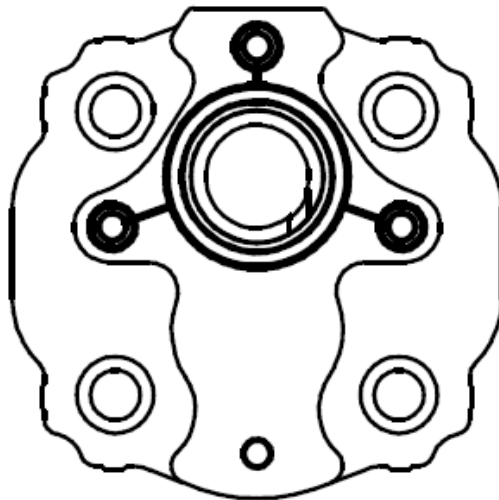

Fig. 7C.89. LOCTITE Applying Procedure
18. Insert retainer spacer (12) into mounting flange (18) using insertion tool (9104-M-329-1) maintaining D dimension; $D = 6.5$ [mm] as shown in Fig. 7C.88.
19. Apply a continuous bead ($1 \div 1.5$ [mm] dia.) of LOCTITE #573 sealant (or commercial equivalent) as shown in Fig. 7C.89, to mating surface of front cover (16), approx. 10 [mm] from retainer spacer (12).
20. Attach mounting flange (18) to front cover (16) and loosely fit with cap screws (19). Torque screws in order shown in Fig. 7C.86 in two stages. Torque the four screws in crosswise order to 50% of full torque value first, i.e. $44 \pm 5\%$ [Nm]. Then tighten the screws to full torque of $88 \pm 5\%$ [Nm] in the same order.
21. Insert retainer spacer (33) into front pump assy housing (2) rear side using insertion tool (9104-M-329-1) maintaining D dimension; $D = 6.5$ [mm] as shown in Fig. 7C.88.
22. Fit splined coupling (32) into rear drive gear (38) opening.
23. Position interface O-ring (34) into groove of front rear cover (35), ensuring that it is seating fully down in groove before front pump assy (1) can be fitted.
24. Fit front pump assy (1) to rear pump assy (22) and loosely fit with cap screws (36). Torque the screws in order shown in Fig. 7C.86 in two stages. Torque the four screws in crosswise order to 50% of full torque value first, i.e. $44 \pm 5\%$ [Nm]. Then tight the screws to full torque of $88 \pm 5\%$ [Nm] in the same order.
25. Check by hand that front drive gear (15) rotates freely.